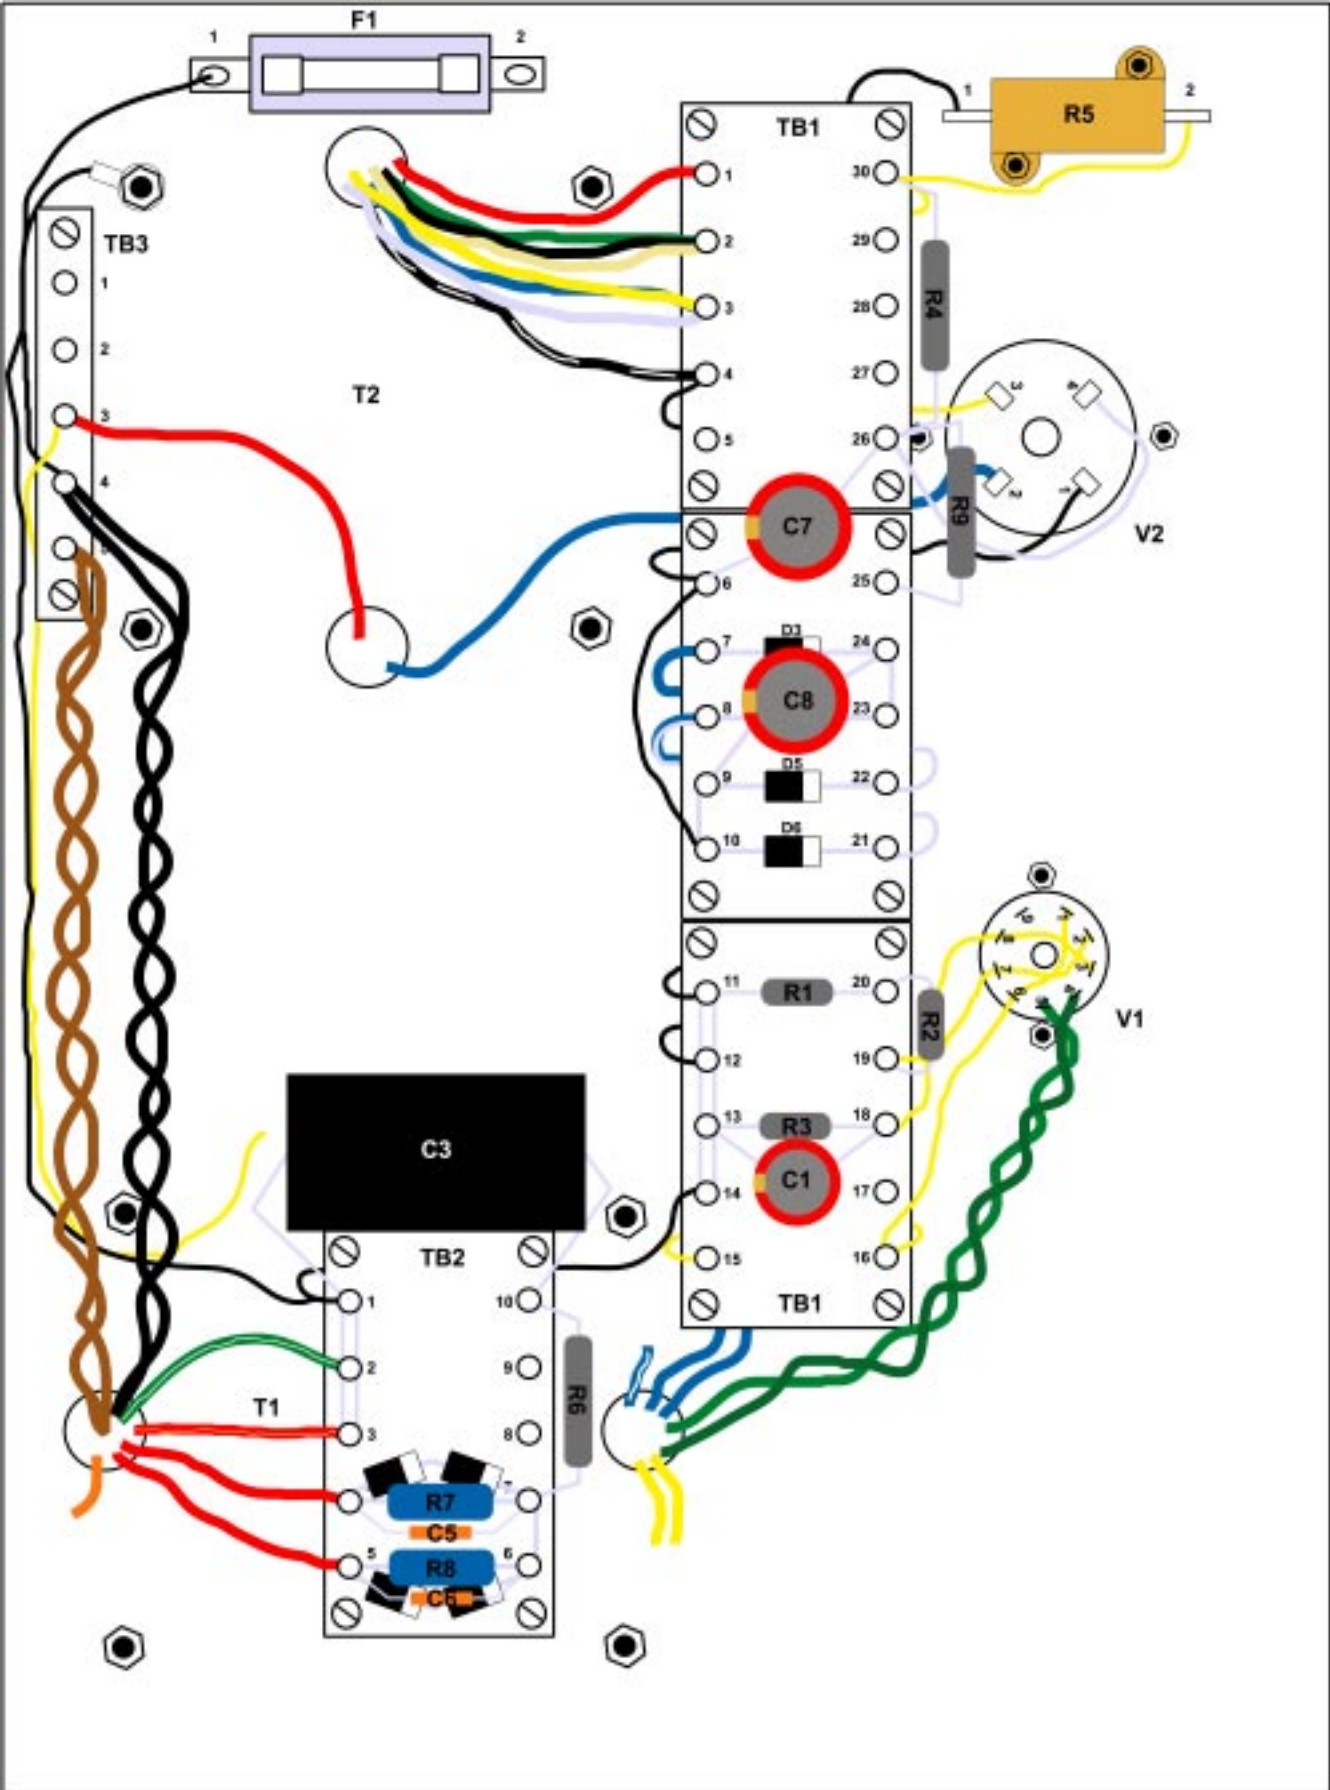

Figure 5
7) Now is a good time to inspect all connections and clean up any solder flux that may have splashed onto the terminal boards, top plate, etc. As the amplifier is populated with more components it becomes more difficult to position the soldering iron without touching already placed parts. It is very important that you be aware of these parts when soldering and not accidentally burn the insulation off an adjacent component or wire. For this next section, refer to figure 5 for all connections.
Solder resistor R1 between TB1-11 and TB1-20 as shown in figure 5.
Solder resistor R2 between TB1-19 and TB1-20 as shown in figure 5.
Solder resistor R3 between TB1-13 and TB1-18 as shown in figure 5.
Solder resistor R4 between TB1-26 and TB1-30 as shown in figure 5.
Solder resistor R6 between TB2-7 and TB2-10 as shown in figure 5.
Solder resistor R7 on top of D1 between TB2-4 and TB2-7 as shown in figure 5.
Solder resistor R8 on top of D2 between TB2-5 and TB2-6 as shown in figure 5.
Solder resistor R9 between TB1-25 and TB1-26 as shown in figure 5. Be sure to leave approximately 1/2" of clearance between the resistor R9 and tube socket pins of V2
Solder capacitor C1 between TB1-13 and TB1-18 as shown in figure 5. Note C1 capacitor is polarized. The capacitor lead adjacent to the band on the body of the capacitor is the negative lead and should be soldered to TB1-13.
Solder capacitor C3 between TB2-1 and TB2-10 as shown in figure 5. C3 is not polarized.
Solder capacitor C5 between TB2-4 and TB2-7 as shown in figure 5. C5 is not polarized.
Solder capacitor C6 between TB2-5 and TB2-6 as shown in figure 5. C6 is not polarized.
Solder capacitor C7 between TB1-6 and TB1-26 as shown in figure 5. Note C7 capacitor is polarized. The capacitor lead adjacent to the band on the body of the capacitor is the negative lead and should be soldered to TB1-6.
Solder capacitor C8 between TB1-9 and TB1-24 as shown in figure 5. Note C8 capacitor is polarized. The capacitor lead adjacent to the band on the body of the capacitor is the negative lead and should be soldered to TB1-9.